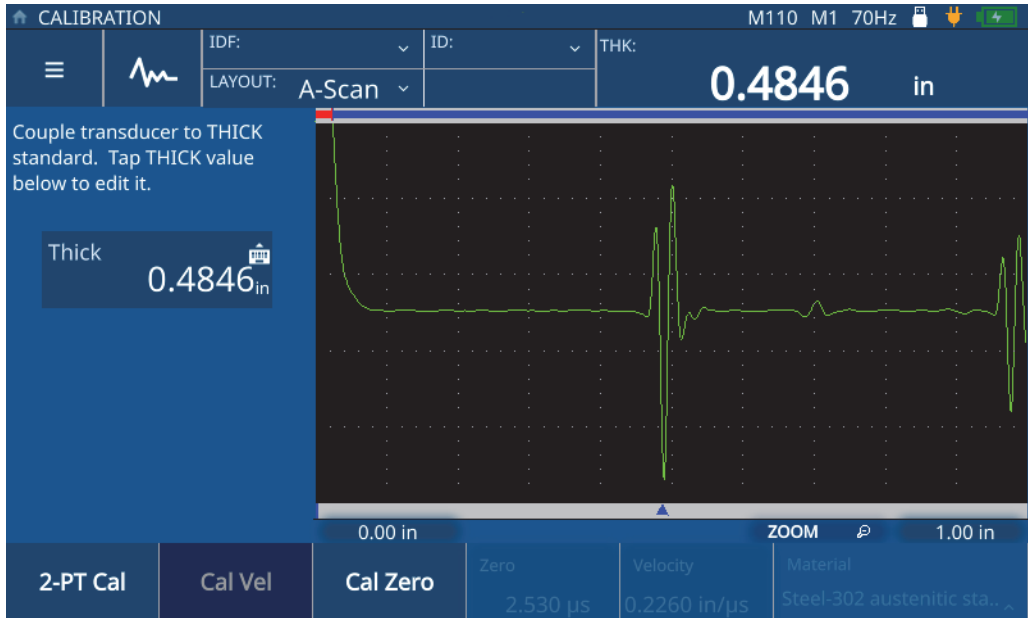

Figure 5-2 Velocity Calibration
4. Follow the screen prompts providing calibration instructions, and couple the transducer to the sample with a known maximum thickness (see Figure 5-2 on page 41).